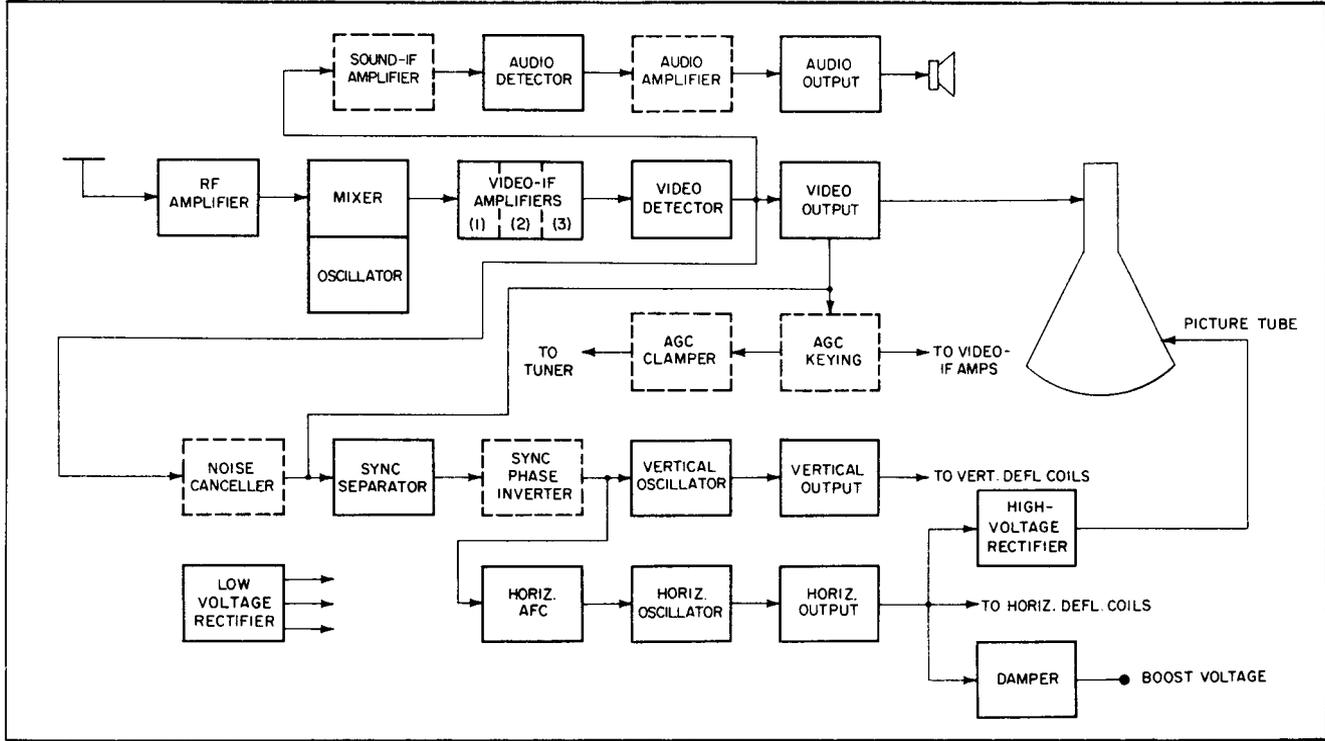

Fig. 1. Block diagram of a typical TV receiver.
The block diagram of a typical large receiver is given in Fig. 1. Other receivers may have more or fewer stages, de-
Here is how a typical TV receiver works: The signal from the station arrives at the antenna, along with all other station signals in the area. The RF amplifier selects only the desired signal (rejecting all others), amplifies it, and couples it to the mixer. In the mixer the station signal and a signal from the local oscillator are beat together (heterodyned) to produce a lower, or intermediate, frequency. The intermediate-frequency (IF) amplifiers are tuned to pass the IF frequencies—that is, a specific band approximately four megacycles wide—and to reject all others. This wide-band response is obtained by using various means of coupling between the IF-amplifier stages. Although these stages are commonly termed the video-IF amplifiers, actually the composite signal which contains sound, sync, and video is present at this point in all modern receivers. Three stages of video IF are shown in Fig. 1; however, some receivers have four and others, two; in one instance, only one video-IF amplifier is employed.
The video signal at the detector output is further amplified by the video-output tube and then applied to the picture tube, where it varies the intensity of the beam to produce light and dark spots corresponding to the original telecast scene. Only a single video-output tube is shown in Fig. 1; however, in some receivers two stages are employed.
An AGC clamper (omitted in many receivers) is also shown in Fig. 1. This stage removes the AGC voltage from the RF amplifier and allows the amplifier to operate at full gain until the signal reaches a predetermined level, then normal AGC voltage is applied to the amplifier.
The video signal at the output of the video-output tube in Fig. 1 is coupled to the sync separator. The sync separator separates the horizontal- and vertical-sync pulses from the video signal and couples them to their respective oscillators, where they serve as a trigger to start each field or each line at exactly the right instant. A noise canceller is often added to prevent any noise pulses in the signal from feeding through and prematurely triggering the oscillators. The
Separate sync-separator and noise-canceller functions were illustrated in Fig. 1, but they are often combined in a single pentagrid tube such as the 6CS6. In another popular